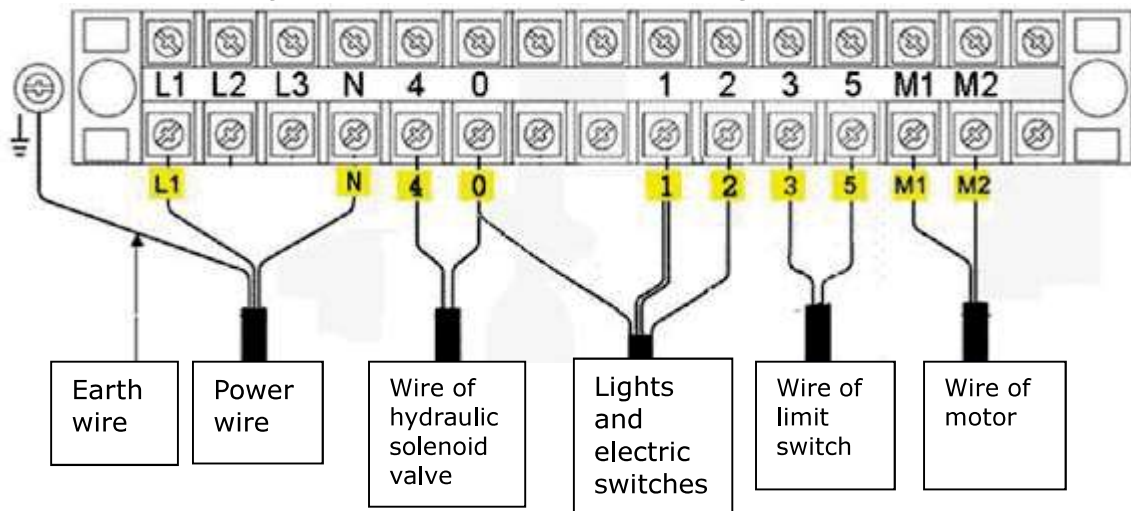

Fig.18
2.1 Wire connection diagram in the control box (See Fig.18)